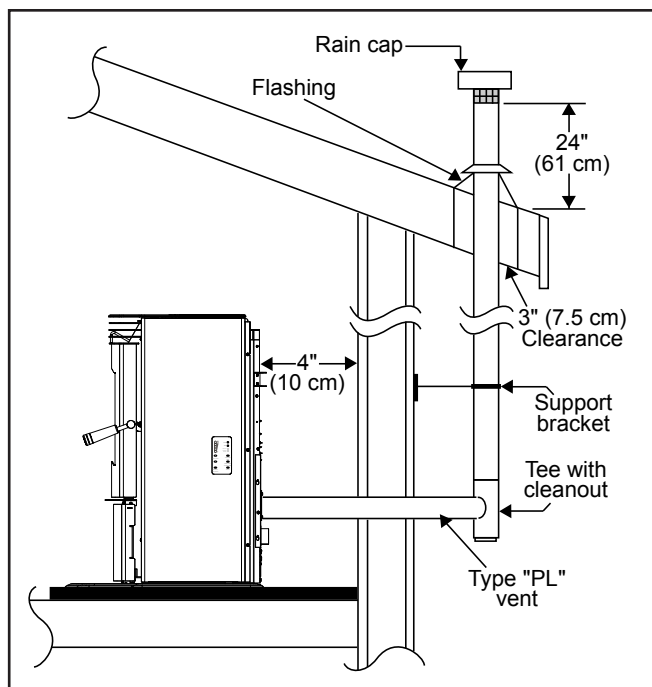

Figure 30: Outside Vertical Installation.
- If the flame is in the middle of these two characteristics with a bright yellow/orange, active flame with no black tips then the air is set for proper operation (see Figure 30).